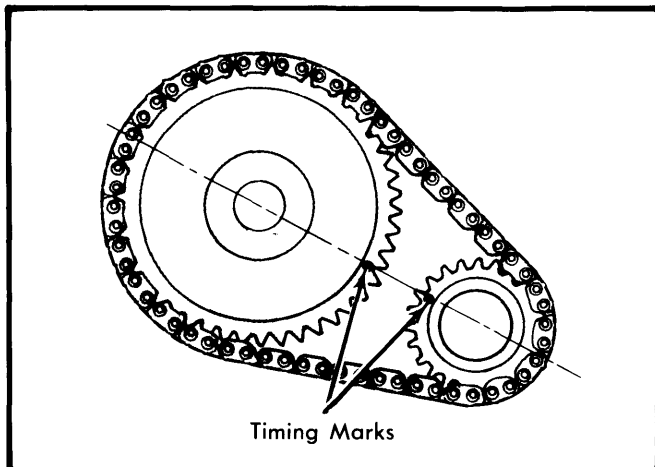

Fig. 14 Timing Chain Sprocket Alignment
**Removal & Installation** — Remove camshaft sprocket attaching bolt and remove timing chain with camshaft sprocket. Turn crankshaft to line up centerline of camshaft and crankshaft with timing mark on crankshaft sprocket. See Fig. 14. Install camshaft sprocket and timing marks aligned. Tighten camshaft sprocket bolt.